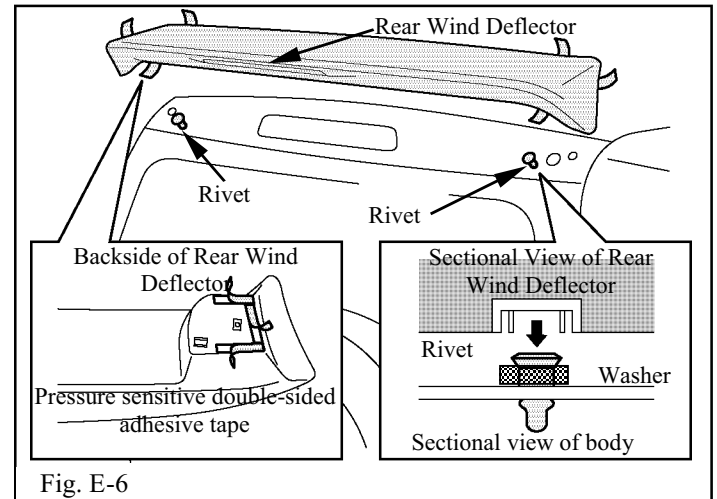

Fig. E-6
-  7. Remove the plastic liners from the two stanchion adhesive pads. Be careful not to touch or allow any contaminants to come into contact with the pads. (Fig. E-6)
-  8. While supporting the wind deflector above the rear mounting surface, align the deflector studs over the mounting holes on the back door. Carefully lower the wind deflector into place and apply pressure on each stanchion until the deflector is secure. (Fig E-6)